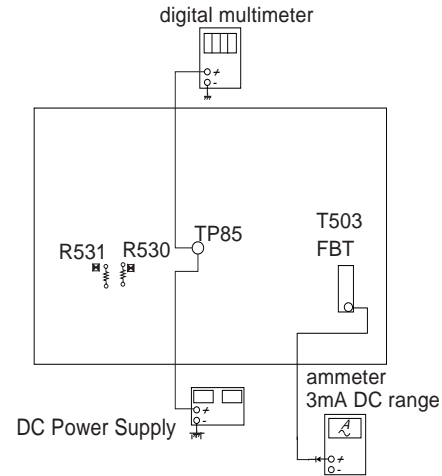

Figure 1
1. Connect the current meter between Pin 11 of the FBT (T503) and the PWB land where Pin 11 would normally attach. (See Figure 1).
4. Connect the digital voltmeter and the DC power supply to TP85 and ground. (See Figure 1)